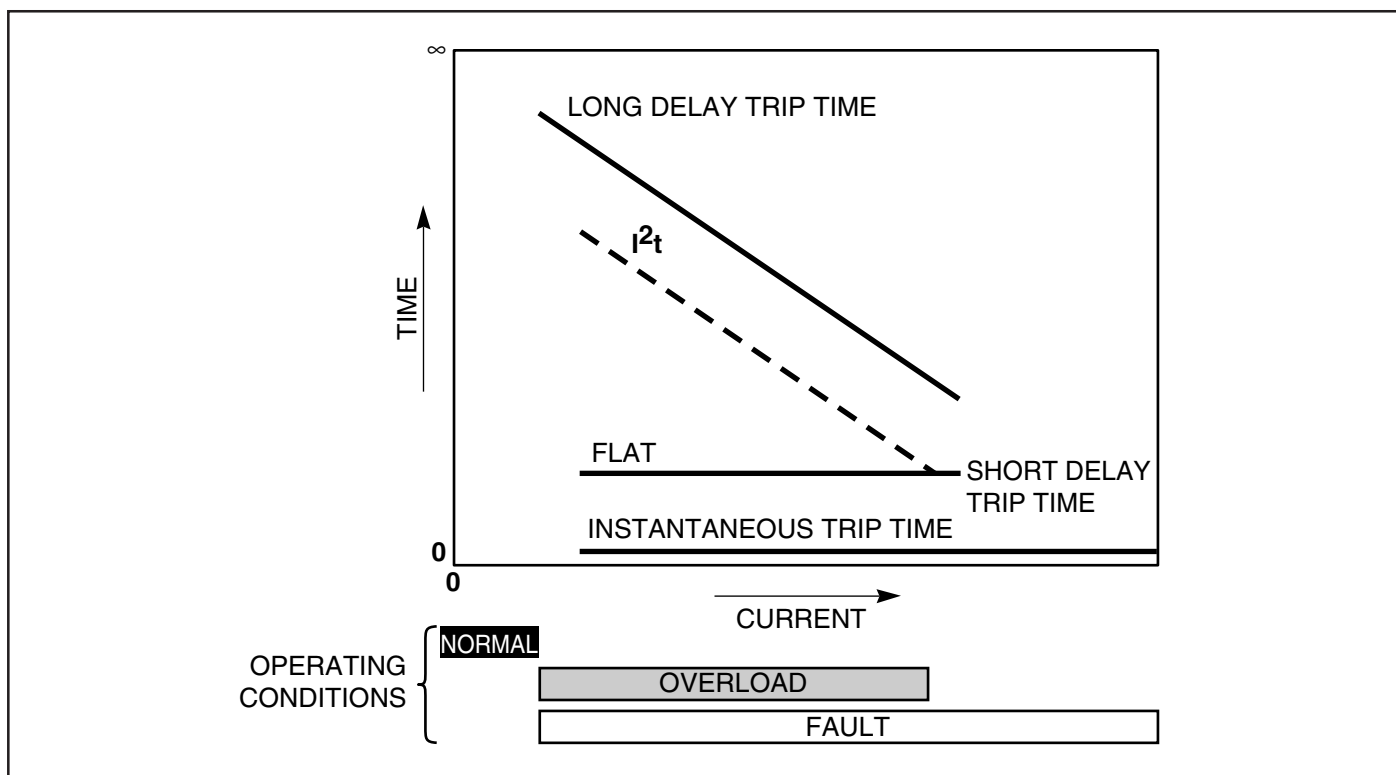

Fig. 14-1 Time-Current Curves
All Digitrip RMS Trip Units are designed to meet the protection requirements of a modern power distribution system. As is shown in Figure 14-1, Application Current Levels can be broken into three typical regions:
- Digitrip RMS Trip Units, when set up according to the results of a Power System study of the specific distribution system on which they are applied, will respond to various current levels to provide accurate system protection as well as maximum system stability by properly coordinating with upstream and downstream devices (Figure 14-1).
- For NORMAL currents, the Trip Unit will accurately monitor the current, regardless of current waveform (due to its true RMS sensing system), assuring that up to full rated current may flow through the system without falsely tripping the breaker. This is shown as the NORMAL OPERATING CONDITION in Figure 14-1.
- For OVERLOAD currents, the Trip Unit will accurately assess the true heating value of the current (again a distinct advantage of its true RMS sensing system), and trip out following the LONG DELAY TRIP TIME curve in Figure 14-1. There are actually eight different LONG DELAY TRIP TIME curves available on the Trip Unit (selected by the Long Delay Time switch setting), and each curve follows a constant  $I^2t$  slope for excellent heating protection and coordination with other devices. The lowest level of OVERLOAD current to bring on this response is selected by the Long Delay Pickup setting on the Trip Unit.
- For FAULT currents, the Trip Unit will respond according to either the SHORT DELAY TRIP TIME or the INSTANTANEOUS TRIP TIME shown in Figure 14-1, depending on the fault current magnitude and whether the Short Delay function or Instantaneous function or both are present on the Trip Unit.
The SHORT DELAY TRIP TIME curve in Figure 14-1 shows the time to trip response of the Trip Unit to FAULT currents. There are actually eight different SHORT DELAY TRIP TIME curves available on the Trip Unit (selected by the Short Time switch setting), three of which follow a constant  $I^2t$  slope for best coordination with downstream devices, five of which are FLAT (fixed trip time). The lowest level of FAULT current to bring on this response is selected by the Short Delay Pickup setting on the Trip Unit.
The INSTANTANEOUS TRIP TIME curve in Figure 14-1 shows the time to trip response of the Trip Unit to FAULT currents. This curve is FLAT, providing the most rapid trip time possible (with no intentional delay) to be able to clear the fault as fast as possible and minimize the damage to the system. The lowest level of FAULT current to bring on this response is selected by the Instantaneous Pickup setting on the Trip Unit.